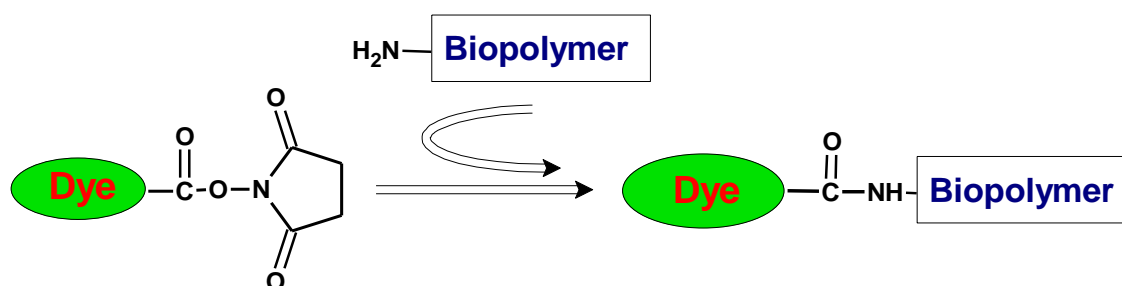

Figure 1. The succinimidyl ester group of fluorophore reacts with amine groups on the protein to form a stable carboxamide bond.
AnaTag™ HiLyte Fluor™ 750 Protein Labeling Kit provides a convenient way to label proteins by using the succinimidyl ester (SE) reactive form of HiLyte Fluor™750. The succinimidyl ester shows good reactivity and selectivity with aliphatic amines of the protein and forms a carboxamide bond, which is identical to, and is as stable as the natural peptide bond (Figure 1). HiLyte Fluor™750-protein conjugates can withstand treatments performed during immunofluorescent staining, *in situ* hybridization, flow cytometry and other biological applications without hydrolysis.